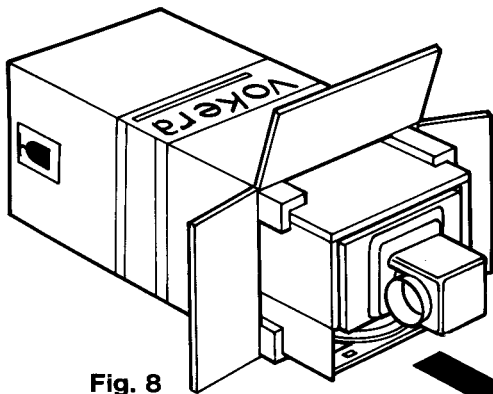

Fig. 8
- central heating valves (2)
- gas service tap (1)
- cold water stopcock (1)
5.2 Unpacking (Fig.8)